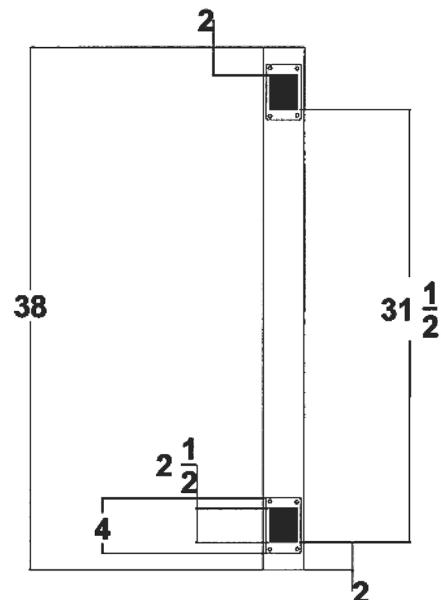

Figure 1:
3. For the 36" Rail: Measure up 2 inches from the floor surface to locate the bottom rail base brackets. Secure the mounting brackets with screws through the vinyl post. Measure up an additional 31½ inches to locate and install the top rail base brackets (see Figure 1). Repeat for each post.